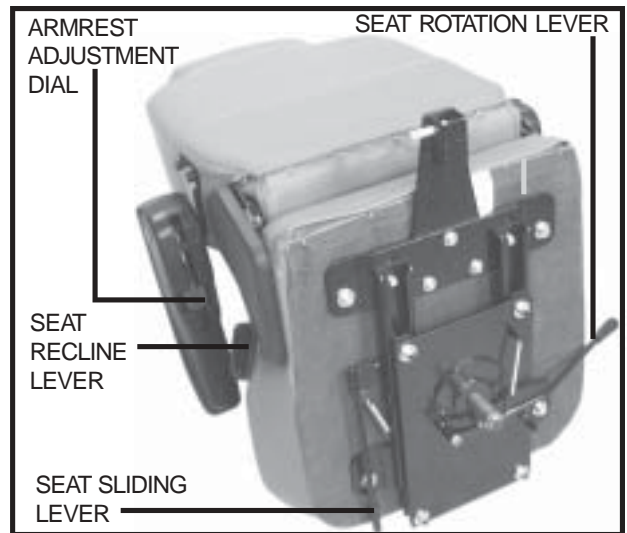

Figure 15. Seat Adjustments
You can reposition the seat forward or rearward to adjust the distance between the seat and the tiller. See figure 15.
The seat rotation lever locks the seat in one of eight positions. See figure 15.
1. Pull up on the seat recline lever to unlock the seatback. See figure 15.